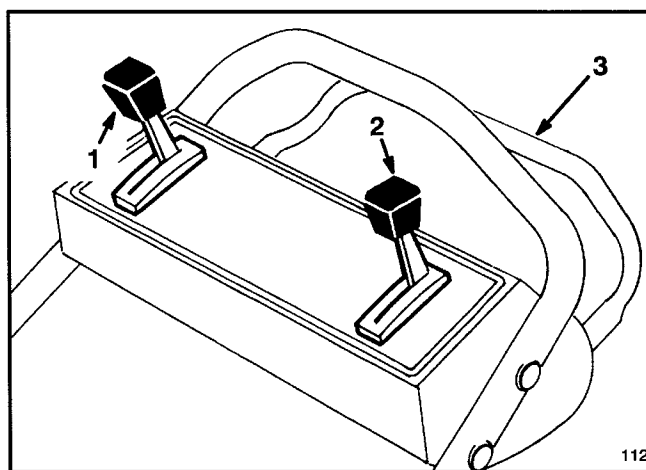
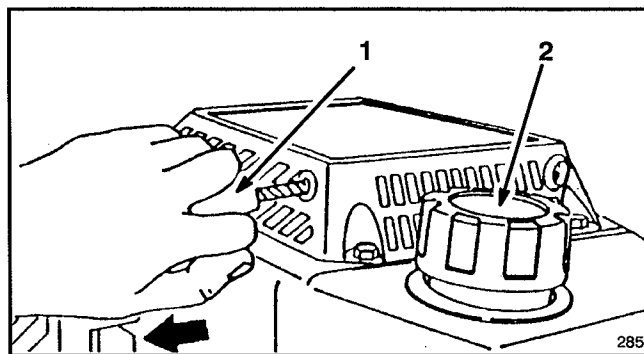

Figure 7
Figure 8
1. Clean around fuel tank cap (Fig. 8) and remove cap from tank.
CONTROLS—Throttle, ground speed control, and self-propelled control bar are on upper handle (Fig. 7). Fingertip starter is on top of engine (Fig. 8).
2. **STARTING**—Move ground speed control to "N" (Fig. 7). Move throttle to  (CHOKE). Brace yourself and mower securely by placing your foot on the top left side of mower housing. Pull recoil starter out until positive engagement results; then pull vigorously to start the engine. When engine starts, remove throttle from CHOKE and regulate engine speed as desired.
3. **TRACTION OPERATION** (Fig. 7)—Move ground speed control to desired setting. Number "1" is slow, "2" is medium, and "3" is a fast walking pace. Ground speed varies, depending on space between control bar and handle. Move ground speed control to "N" when using the mower for trimming and whenever leaving the mower.